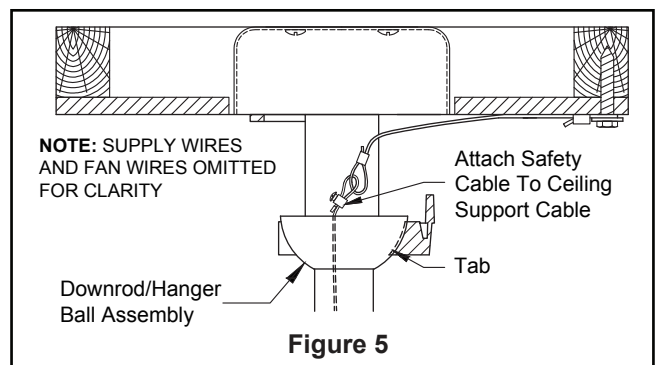

Figure 5
- 5. Slide downrod into the downrod support on top of the motor. Install the clevis pin by aligning the holes in the downrod support with holes in the downrod. Secure clevis pin with hairpin clip. Tighten the two set screws with nuts in the downrod support. (Figure 5)
5. Carefully lift the fan and seat the downrod/hanger ball assembly onto the hanger bracket that was just attached to the ceiling joist. Be sure the groove in the ball is lined up with tab on the hanger bracket. (Figure 5)
6. Attach the safety cable to ceiling support cable. Slide cable clamp onto safety cable (from fan). Place the end of cable through the loop of ceiling support cable. Pull as much cable through loop as possible. Feed end of cable into clamp hole and firmly tighten screw (Figure 5). Cut off excess safety cable.